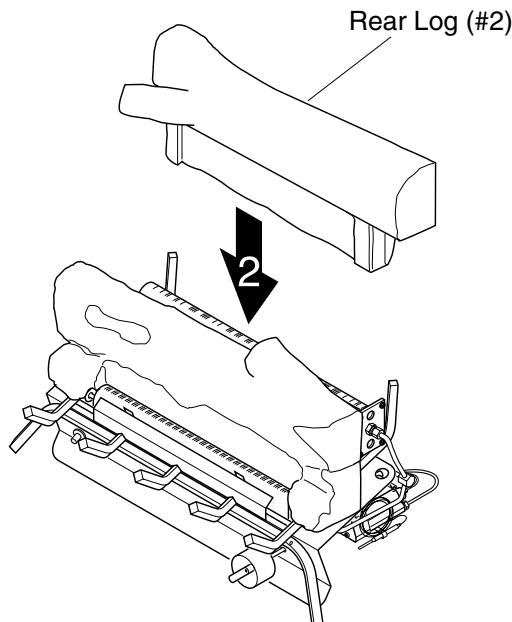

Figure 18 - Installing Rear Log
2. Slide rear log (#2) into place behind rear burner (see Figure 18).